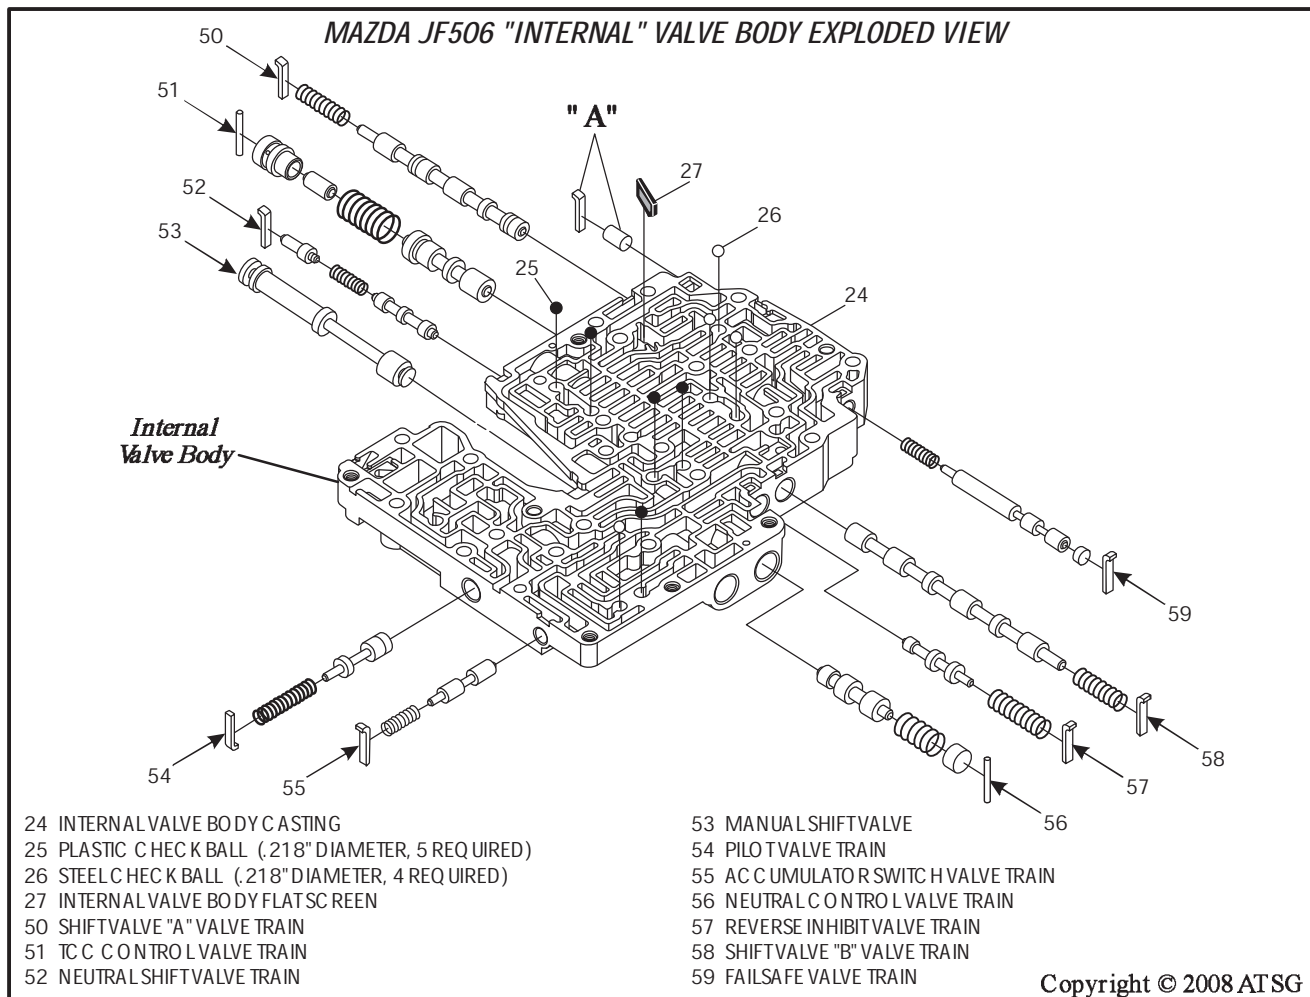

Figure 166
22. Disassemble the internal valve body, as shown in Figure 166, and place valves, bore plugs and retainers in appropriate trays exactly as they were removed from casting.
Note: *There is no need to remove the bore plug and retainer identified with an "A" in Figure 166, as the valve is removed from opposite side.*
24. Assemble internal valve body parts exactly as they are shown in Figure 166, and lube with the proper ATF as they are installed.
- Note:** *Install the retainers exactly as shown in Figure 166, as they install in different directions through out the valve body.*
25. Install the flat valve body screen into position, as shown in Figure 166.
26. Install the manual valve into the internal valve body in the direction shown in Figure 166.